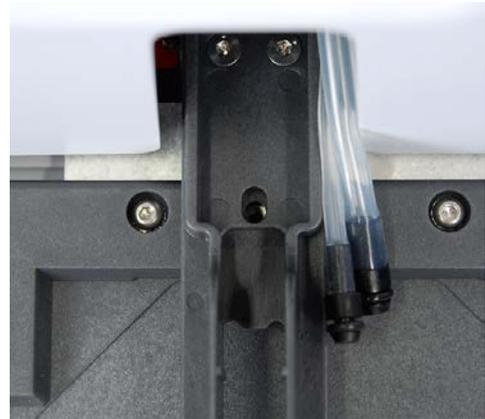

Figure 41. Aligning the plate carrier and wash head arm
2. Align the wash head arm and the plate carrier in order to refit the transport lock screw (Figure 41).